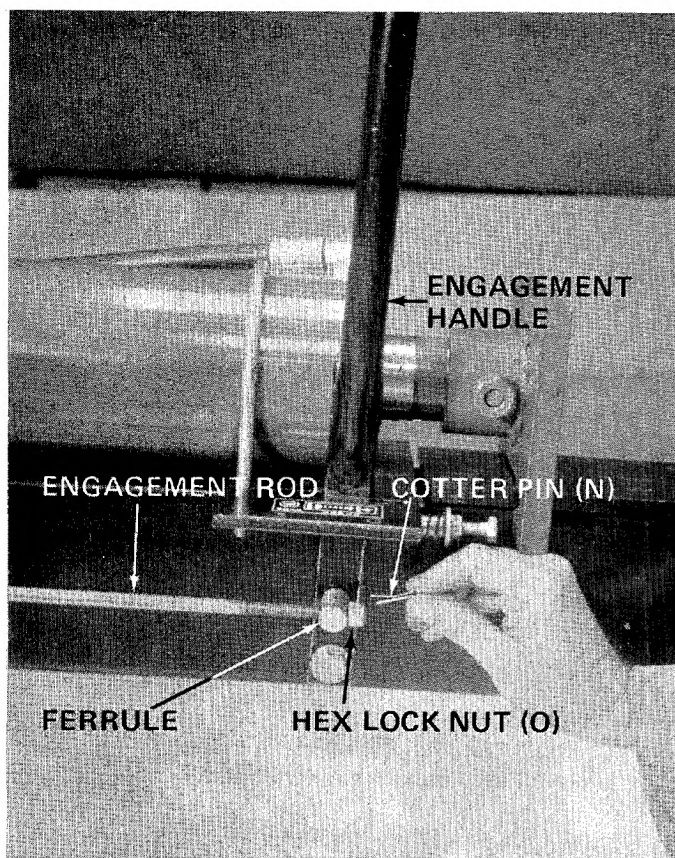

FIGURE 13
13. Thread hex lock nut (O) on engagement rod until nut rest against the ferrule. Secure ferrule in engagement handle with cotter pin (N). See figure 13.